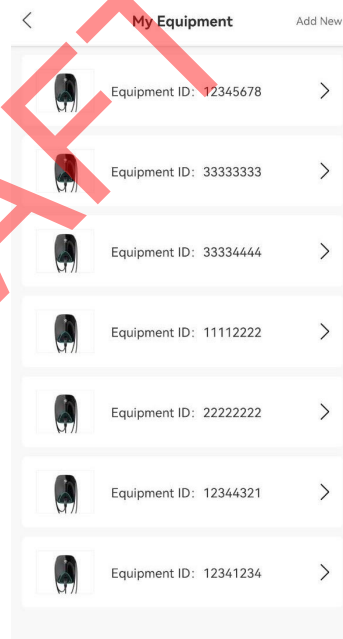

Figure 5-12: Choose the charging station
2. Select the corresponding charging station, as shown in Figure 5-12.